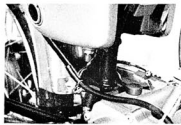

Fig. 4-1-12
11. Disconnect the oil pipe at the bottom of the oil tank. (Fig. 4-1-12)